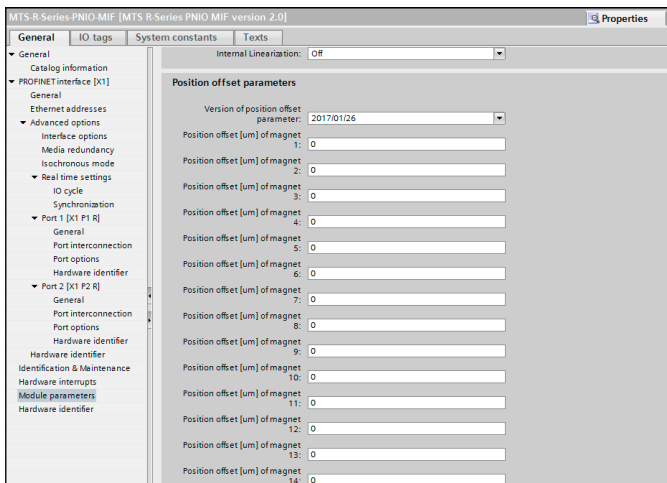

Fig. 93: Setting of the offset
- **Offset:** In the subsection “Position offset parameters” you can set the offset, a shift of the measurement range start, separately for each magnet – independent of further magnets on the sensor rod/sensor profile (Fig. 93). You can set the values with a step size of 1 µm in the range between -214...+214 m.